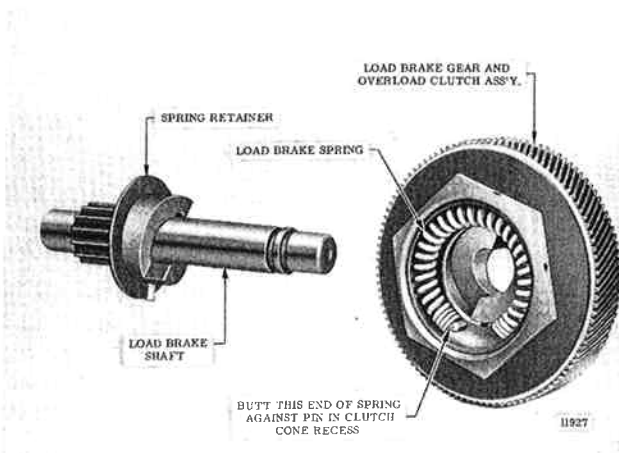

Figure 7-24. Load Brake Gear and Overload Clutch Assembly Removed from Load Brake Shaft Showing Brake Spring Installed in Clutch Cone.
(3) Remove load brake gear and overload clutch assembly from output pinion shaft. Pull the spring from its recess in clutch cone (fig. 7-24) but do not further disassemble gear and clutch assembly. See "NOTE" below.
NOTE: Disassembly of the load brake gear and overload clutch assembly (fig. 7-24) is not recommended. Clutch pressure is preset by the factory at assembly to provide the correct torque to allow the clutch to refuse loads within a specified range (110% of rated load to 180% rated load). It is suggested whenever there is a need to repair or readjust the gear and clutch assembly that it be sent to an authorize **BUDGIT** Hoist Repair Station where adequate tools, fixtures and appropriate test equipment is available.
(1) Before assembly, all parts should be cleaned and inspected to determine their serviceability. Replace parts that are excessively worn or damaged.
(2) Reassemble load brake parts following a reverse procedure of the disassembly steps listed above, observing the assembly steps (3) thru (6) below.
(3) Before installing spring in its recess in center of clutch cone (fig. 7-24) apply a good grade of ball bearing grease to inside of recess. Spring must be positioned exactly as illustrated, abutted against pin.